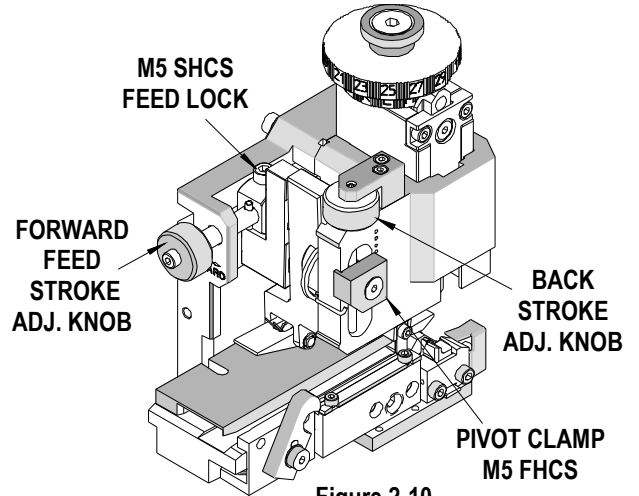

Figure 2-10
5. Turn the forward feed adjusting knob to position the terminal. To decrease the feed position, turn the forward feed adjusting knob clockwise. To increase the feed position turn the forward feed adjusting knob counterclockwise. See Figure 2-10.
adjustment is complete, tighten the pivot clamp securely. See Figure 2-10.